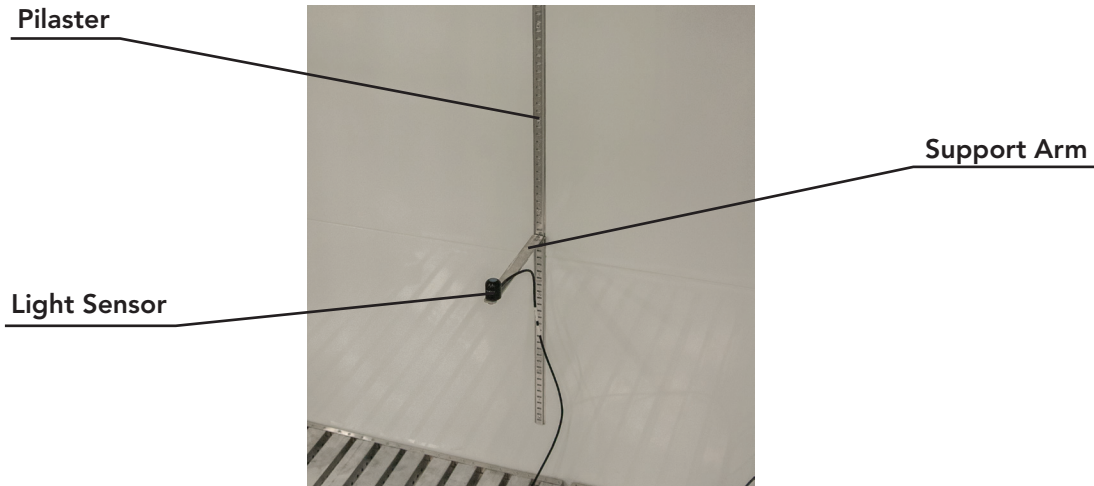

Figure 17
- b. Determine the location of the new light sensor in the chamber. The new light sensor assembly comes with a 48" pilaster and support arm (Figure 17). The distance from the sensor to the light canopy can be adjusted such that the position of the sensor consistently reflects the height of plants in the chamber. To install the pilaster: